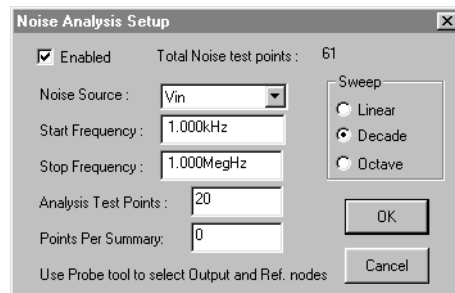

Figure 6.26. Use this dialog box to set up Noise Analysis.
- 3 Click the **Noise** button to display the dialog box pictured in Figure 6.26.